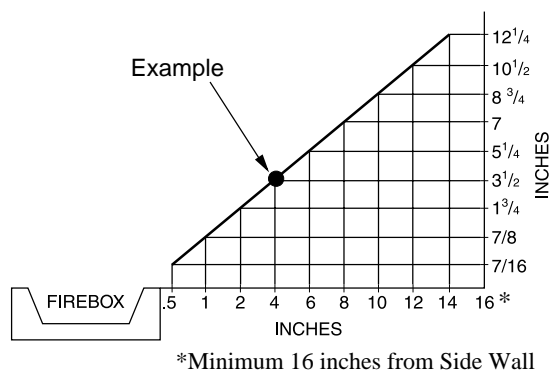

Figure 5 - Minimum Clearance for Combustible to Wall
- A. Clearances from the side of the fireplace cabinet to any combustible material and wall should follow diagram in Figure 5.
Example: The face of a mantel, bookshelf, etc. is made of combustible material and protrudes 3 1/2" from the wall. This combustible material must be 4" from the side of the fireplace opening (see Figure 5).